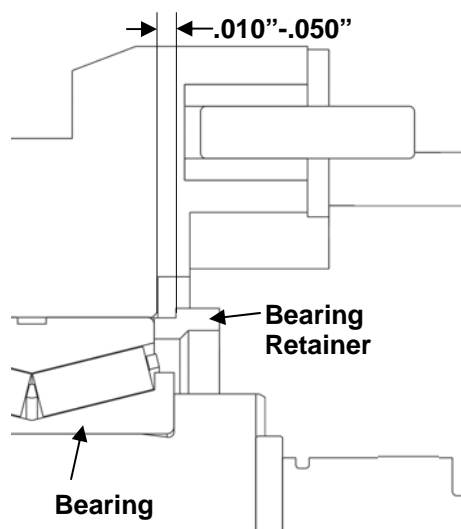
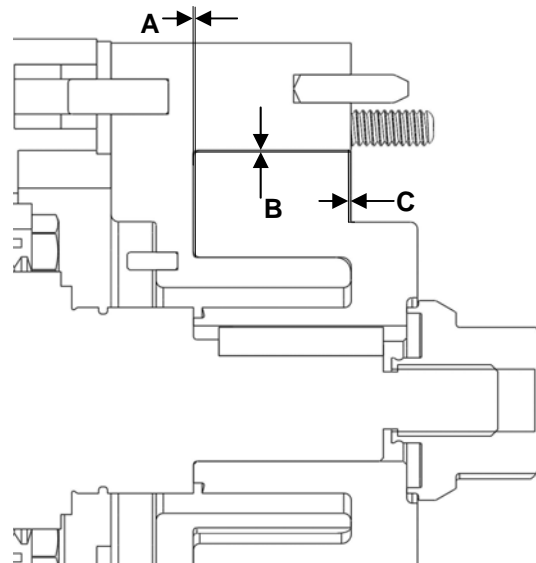

Figure 55: Bearing Retainer Clearance
Figure 56: Important Clearances
5) Once the shafts are pressed into the gear case, install the bearing retainers to hold the shafts in place temporarily (do not install liquid sealant). Ensure there is proper clearance between the retainer and the gear case, as seen in Figure 55. Place the body on the gear case, making sure it is seated correctly. Assemble the rotors into the body and tighten down using the rotor nuts. Measure dimensions A, B, and C seen in Figure 56 and refer to Table 4 (page 22) to verify the clearances. If clearances are not correct, the shafts must be removed and the shims will need to be adjusted. If the clearances are correct, remove the rotors and body.